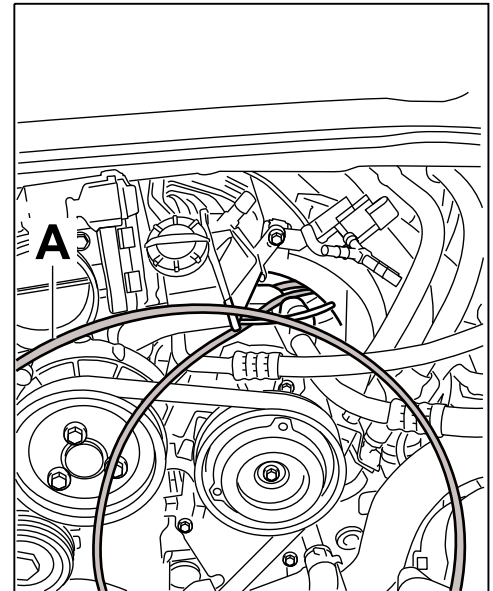

Figure 7
- 3.1.1 Auxiliary line (⇒ *Figure 7-A*-) for right rear muffler: